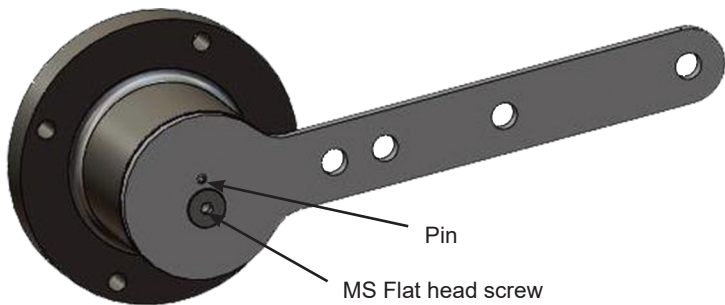

Figure 6 - Magnet Holder for Reciprocating Valves
1. Ensure that the lever is pinned to the magnet assembly and held securely by an M5 flat head screw to ensure that the magnet axis is vertical when the lever is in the valve closed position. Tighten the lever screw securely. Refer to Figure 6.